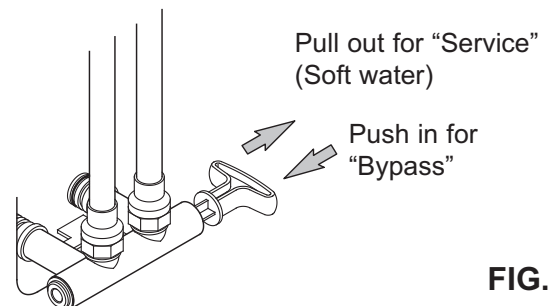
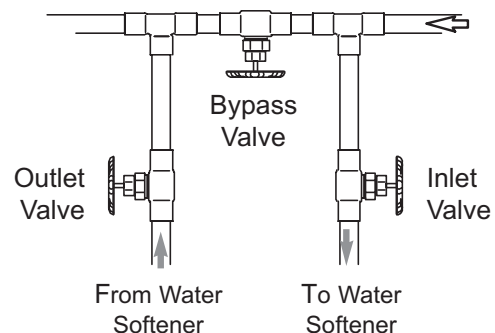

FIG. 6
FIG. 7
Always install either a single bypass valve (provided), as shown in Figure 6, or, if desired, parts for a 3 valve bypass system (not included) can be purchased and assembled, as shown in Figure 7. Bypass valves allow you to turn off the water to the softener for maintenance if needed, but still have water in house pipes.
2. Place the bypass valve (single or 3 valve) into the "bypass" position. See Figures 6 & 7 on Page 7.